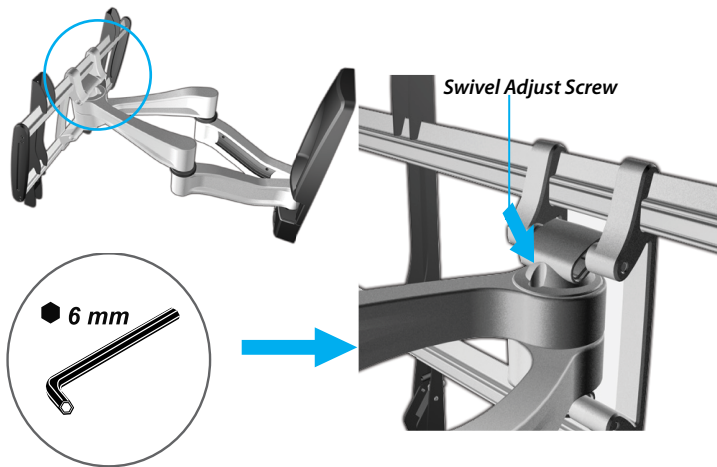

Figure 13
3. Tighten the **Swivel Adjust Screws** located on the **TV Wall-Mount Assembly** using the **6 mm Hex Key**. (Figure 13)